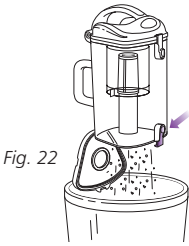

Fig. 22
- 2 Hold the dust cup over a trash receptacle and press the bottom door release button. **(Fig. 22)** Tap gently to empty contents. Press the door shut again until it clicks.